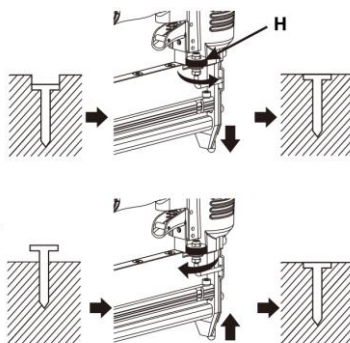

Figure 6
- a. If it is too deep, turn the adjustment knob counter clockwise (Figure 6).
- b. If it is too shallow, turn the adjustment knob clockwise (Figure 6).